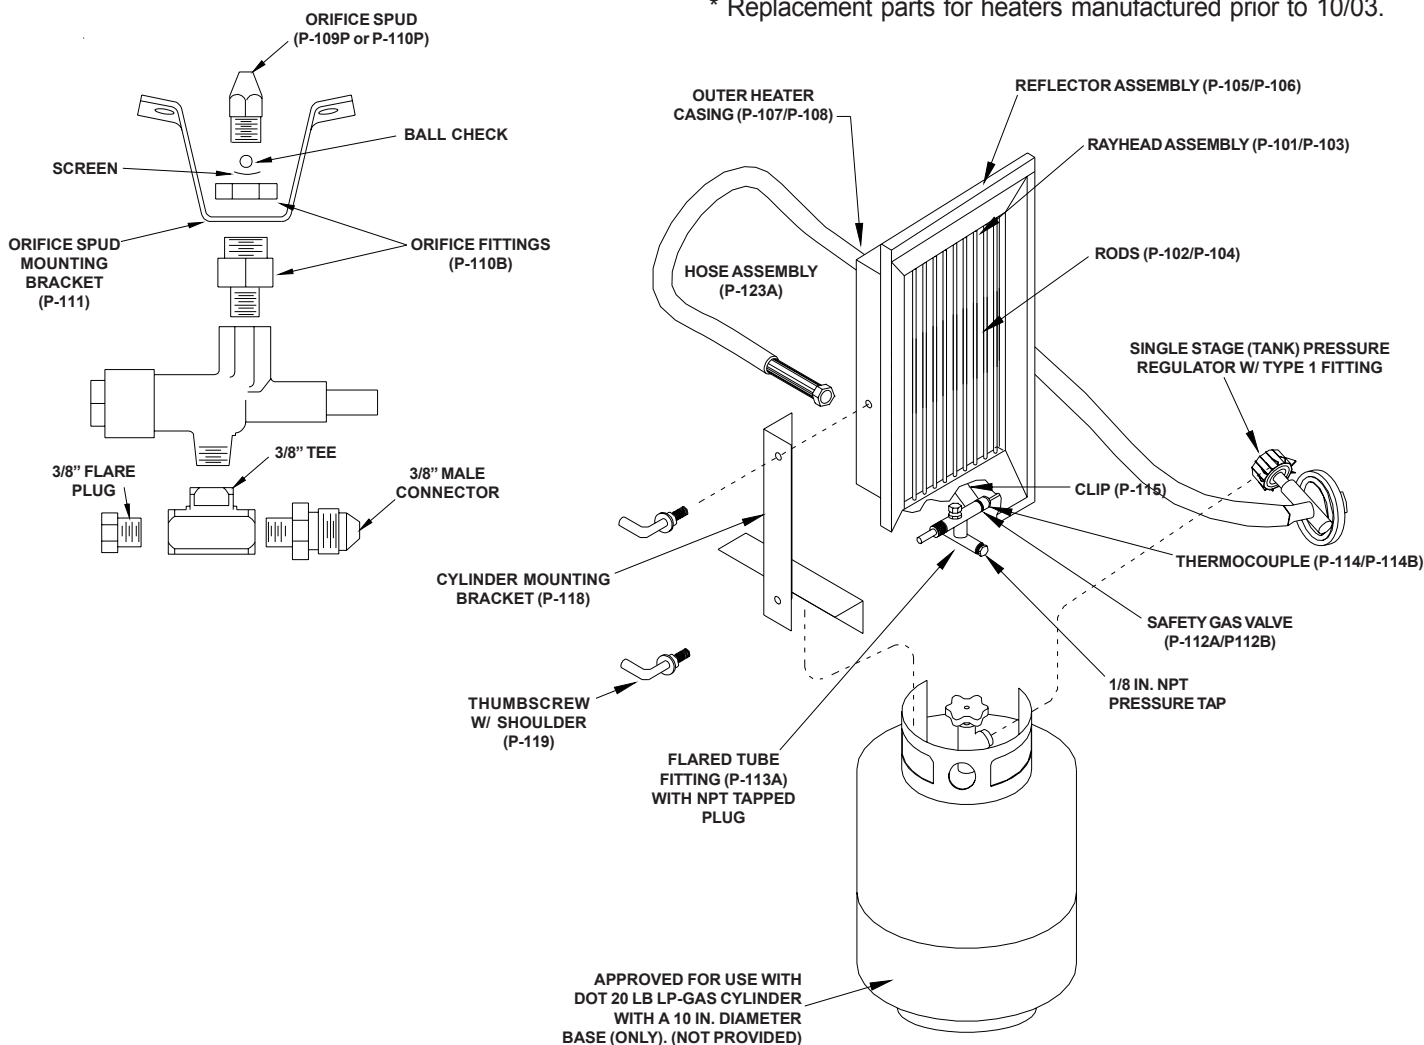

Figure 2
2. Connect the Type 1 fitting and pressure regulator assembly to the propane cylinder, hand tighten the nut clockwise to a positive stop. **DO NOT** use a wrench to tighten. (see Figure 2).
4. Connect the hose assembly to the heater's safety gas valve (see Figure 2).